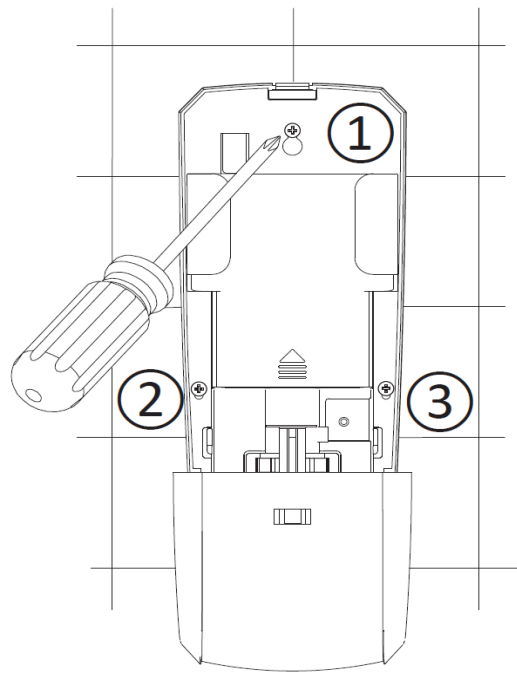

Fig. 5
7. Mount dispenser and tighten screws, see Fig.5.